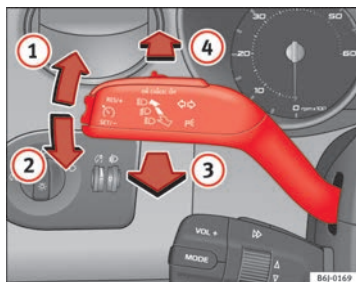

Fig. 59 Turn signal and main beam headlight lever
- Move the lever all the way up ⇒ Fig. 59 ① to indicate **right**, and all the way down ② to indicate **left**.
- Press the lever forward ⇒ Fig. 59 ④ to switch on the main beams.